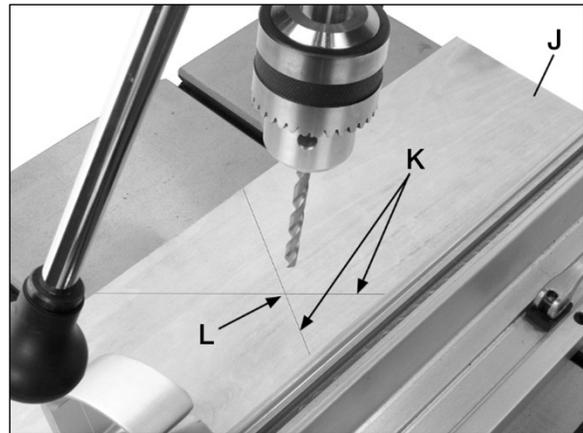
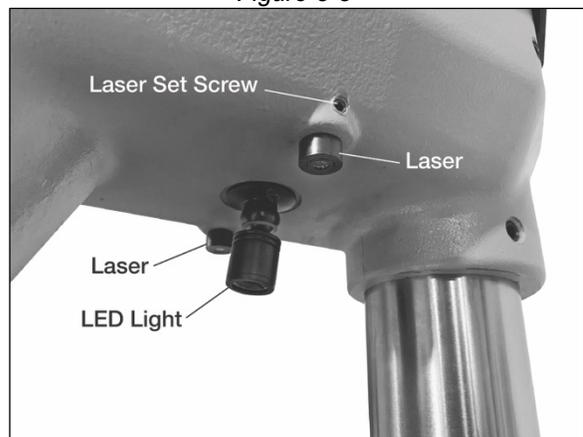

Figure 8-8
Figure 8-9
1. Place a wooden board (J, Figure 8-8) flat on table. Do not allow board to move from this
2. Loosen the laser setscrew on one side of the drill press head (see Figure 8-9). Using your thumb and forefinger, slightly rotate the laser left or right until it bisects the drill bit indentation on the board (K, Figure 8-8). Tighten the laser set screw to lock this laser in place.
3. Repeat step 2 with the laser on the other side of the drill press head. Make sure the second laser bisects the drill bit indentation (L, Figure 8-8). The two lasers will now form an "X" with the center of the "X" at the precise point of the drill bit indentation.
The LED light is activated by the front panel switch. Press on the outer rim of the light to adjust (see Figure 8-9).